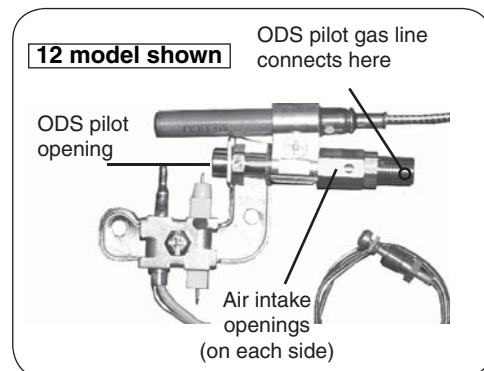

Fig. 21-1
1. Turn the burner system to the **OFF** position and allow it to cool. Inspect the ODS pilot area (see Fig. 21-1) for any visual contamination or debris (usually lint, hair, spider webs, or small insects). Lightly brush off all external surfaces while vacuuming loosened debris from the ODS pilot opening. **Be careful not to brush any foreign material into the ODS pilot opening.**
2. Clean out the air intake openings (see Fig. 21-1) by lightly brushing around the openings while vacuuming.
4. If the ODS pilot flame does not burn as indicated in the instructions, extinguish the ODS pilot by turning the valve to the full **OFF** position. Using a compressed air duster, insert the flexible nozzle through the air intake openings, ensuring that the nozzle is pointed toward the ODS pilot opening (see Fig. 21-1). Blow air through the intake openings to clear out any debris that may be in the system.
5. Relight the ODS pilot and inspect it to be sure it is burning as shown in the instructions. If not, extinguish the ODS pilot and **turn off the gas supply to the burner system.** Using an adjustable or a 1/4" wrench, disconnect the ODS pilot gas line (see Fig. 21-1) from the valve.